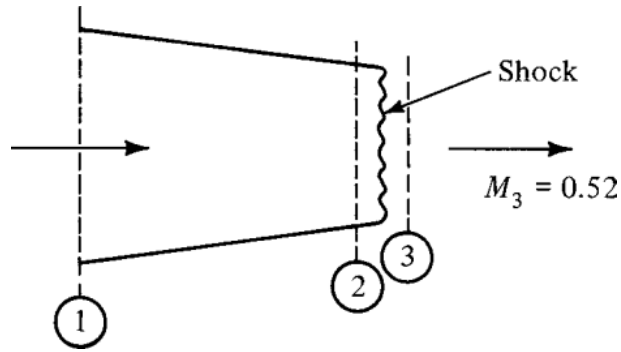

Figure P6.5
- 6.5** Air flows in the system shown in Figure P6.5. It is known that the Mach number after the shock is $M_3 = 0.52$. Considering p_1 and p_2 , it is also known that one of these pressures is twice the other.